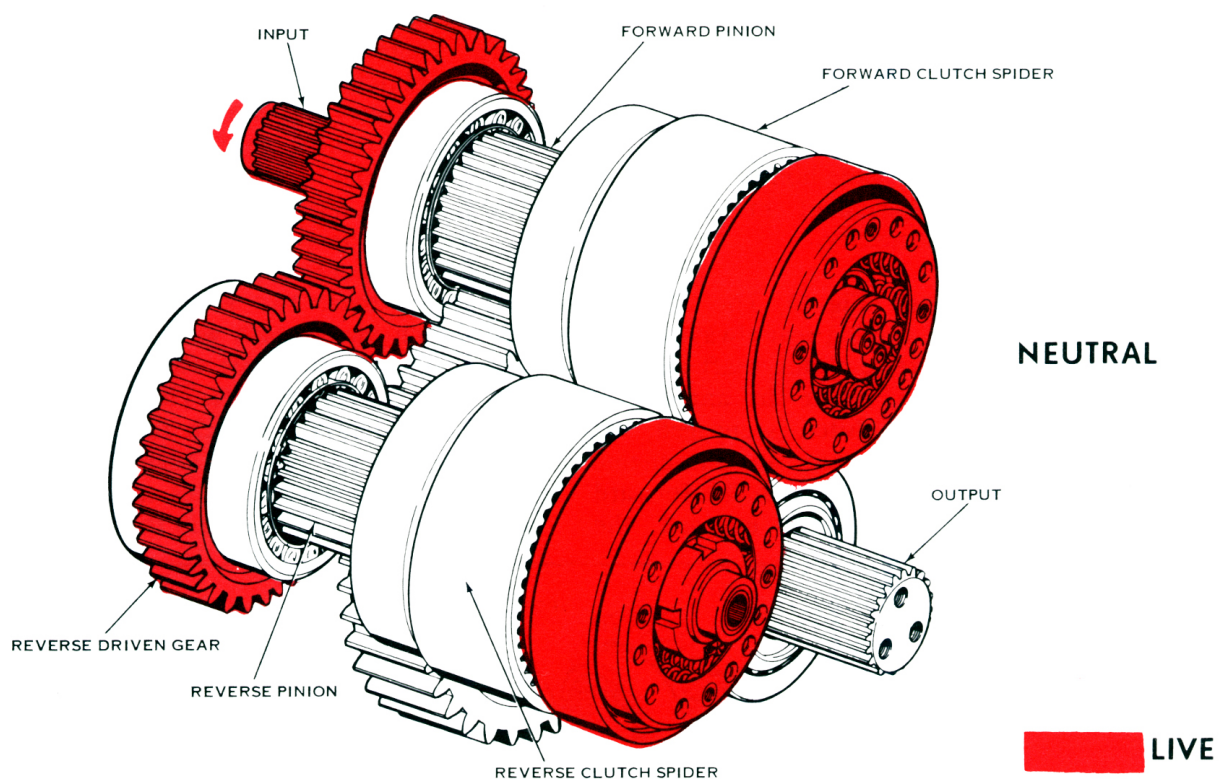

Figure 7. MG-509 Marine Gear Power Flow – Neutral.
A. Neutral (Fig. 7). When in neutral, all parts that rotate in the marine gear turn at engine speed. The driving ring that is bolted to the engine flywheel is the connecting member between the engine and the marine gear. The rubber blocks installed on the drive spider are meshed in the driving ring. The drive spider is spline-connected to the forward clutch shaft. The internal gear teeth of the steel clutch plates mesh with the external gear teeth of the hub and back plate which is directly connected to the forward clutch shaft. Therefore, the steel clutch plates of the forward clutch rotate in engine direction at engine speed. The reverse driving gear is keyed to a taper on the forward clutch shaft. The reverse driving gear meshes with the reverse driven gear which is keyed to a taper on the reverse clutch shaft. The ratio between the two gears is 1:1. Anti-engine rotation at engine speed of the reverse clutch shaft is obtained by the meshing of these two gears. The gear teeth of the steel clutch plates mesh with the external gear teeth of the hub-and-back plate which is directly connected to the reverse clutch shaft. Therefore, the steel clutch plates of the reverse clutch rotate in anti-engine (or reverse) direction and at engine speed. Since both forward and reverse clutches are disengaged, there is no further power flow within the gear.